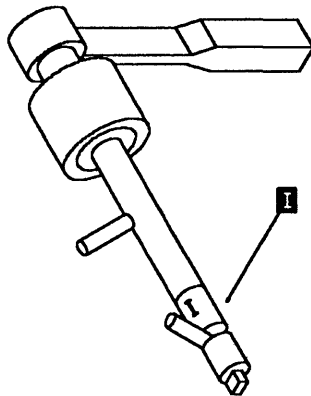

Figure 5-105. Actuation Tool Installation
- Before using the TCM actuation tool be certain that the detent pin is in the **Installation position I** as shown in Figure 5-105 on page 5-101.